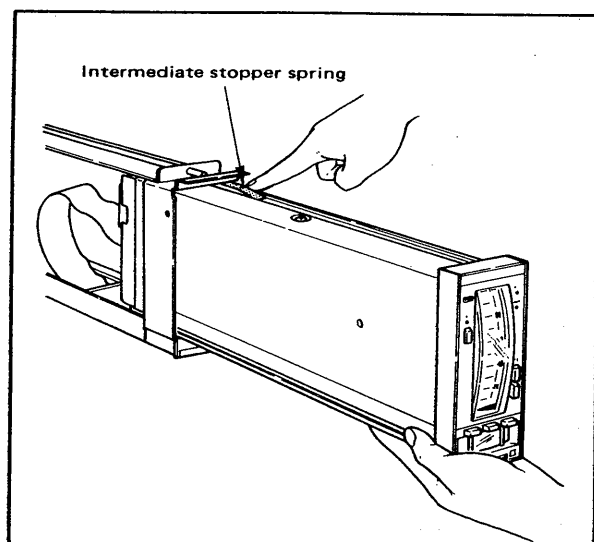

Figure 5-2-2. Removing Internal Assembly.
- (2) To remove the internal assembly from the housing, push down an intermediate stopper spring while pulling the assembly out from the housing as shown in Figure 5-2-2.